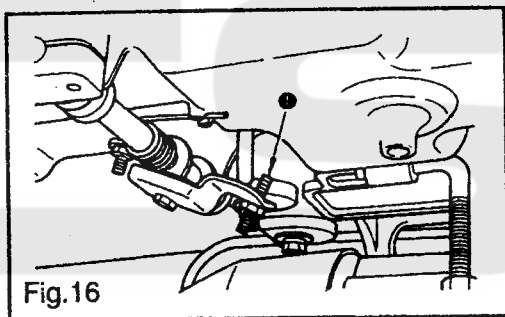

Fig.16
- 1) Drill four guiding holes ①, ②, ③ and ④ for wooden screws in the table.
- 2) Install belt cover support ① in the tapped hole in the arm.
- 3) Pass the handwheel through the hole in belt cover A ②, then set the handwheel on the arm. At this time, you can smoothly install the handwheel diagonally from the rear of the handwheel by tilting belt cover A ② as illustrated in the figure.
- 4) Place belt cover B ③ on guiding holes ⑤ and ⑥.
- 5) Fix belt cover A ② on the arm using screws ⑦, ⑧ and washer ⑨. At this time, tighten screw ⑦ with a tightening torque of 30 kgf/cm and screw ⑧ with a tightening torque of 25 kgf/cm. If you tighten further these screws, the securing state of the belt cover will not change.
- 6) Fit cat ⑩ to the belt cover A.
- 7) Move belt cover B ③ backward until the rubber section of belt cover B ③ comes in contact with belt cover A ②. Then, further move the belt cover B in the same direction by 0.5 to 1mm. Now, fix the belt cover B in position using wooden screw and washer.
- 8) Fix bobbin winder ⑪ in guiding holes ① and ② using wooden screws and washers.
13. ADJUSTING THE HEIGHT OF THE KNEE LIFTER (Fig.16,17)